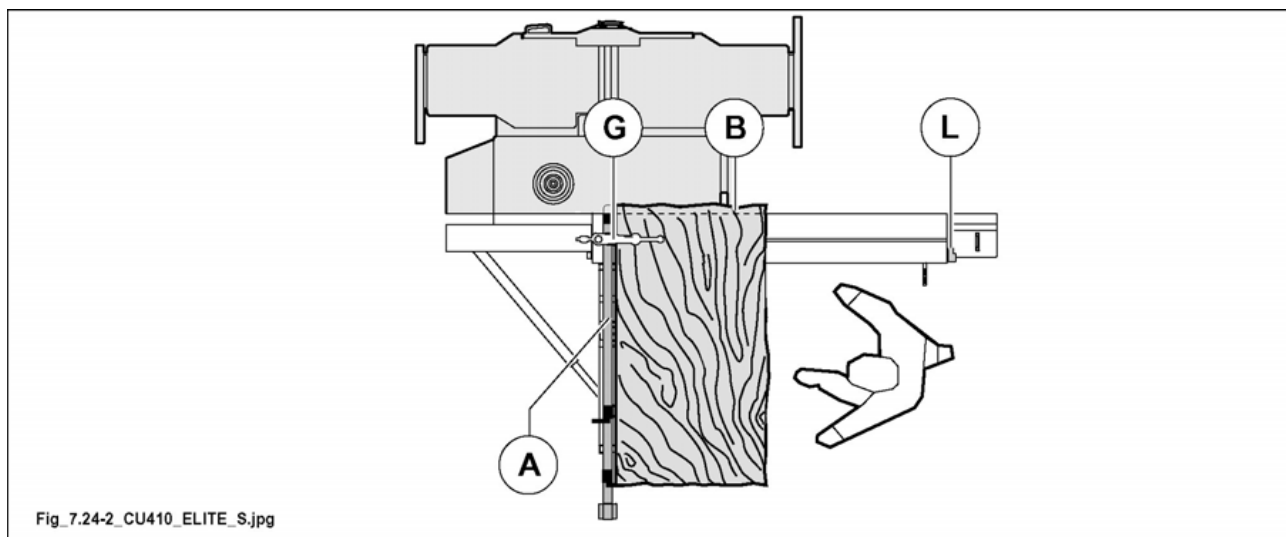

Fig. 7.24-2
- Move the sliding table to the end of stroke (see fig. 7.24-2), lock lever (L fig. 7.24-2).
- Turn the panel 90°. Rest the trimmed side (A fig. 7.24-2) against aluminium rule; lock the panel with clamping device (G fig. 7.24-2) then carry out cut (B fig. 7.24-2).